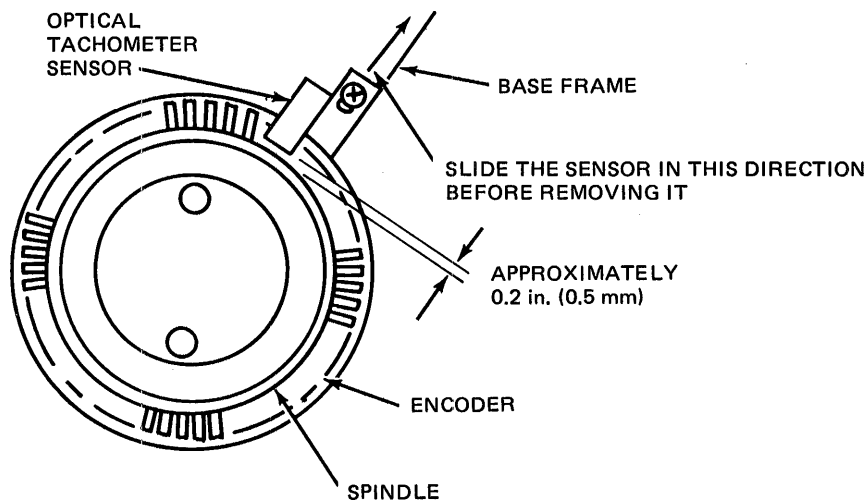

Figure 4-10 Removing and Replacing the Optical Tachometer Sensor
- c. Slide the sensor out of the base frame, being careful not to damage the encoder (see Figure 4-10).
- b. Slide the sensor into the channel in the base frame until the gap between the spindle and the sensor is .008 to .040 inches (0.2 to 1.0 mm) (see Figure 4-10).